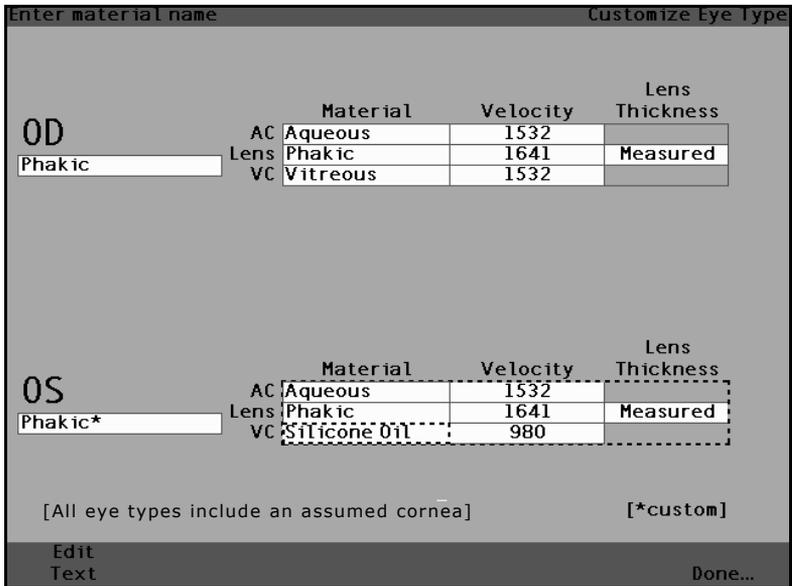

Figure 132 Changing VC Material
5. Within the VC Material cell, rotate the knob to select one of the pre-entered materials as shown in Figure 132 below,